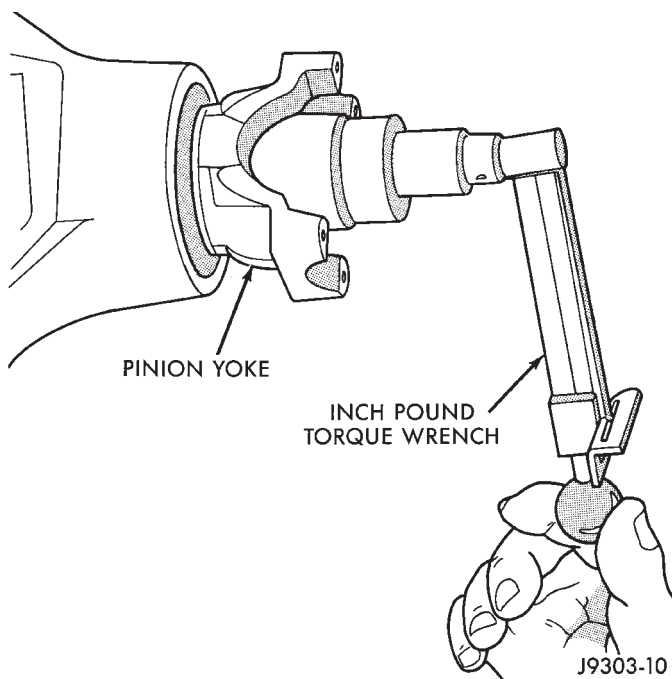

Fig. 14 Check Pinion Rotation Torque
(3) Install the pinion washer and a new nut on the pinion gear. **Tighten the nut only enough to remove the shaft end play.**
(4) Rotate the pinion shaft using a (in. lbs.) torque wrench. Rotating torque should be equal to the reading recorded during removal, plus an additional 0.56 N·m (5 in. lbs.) (Fig. 14).